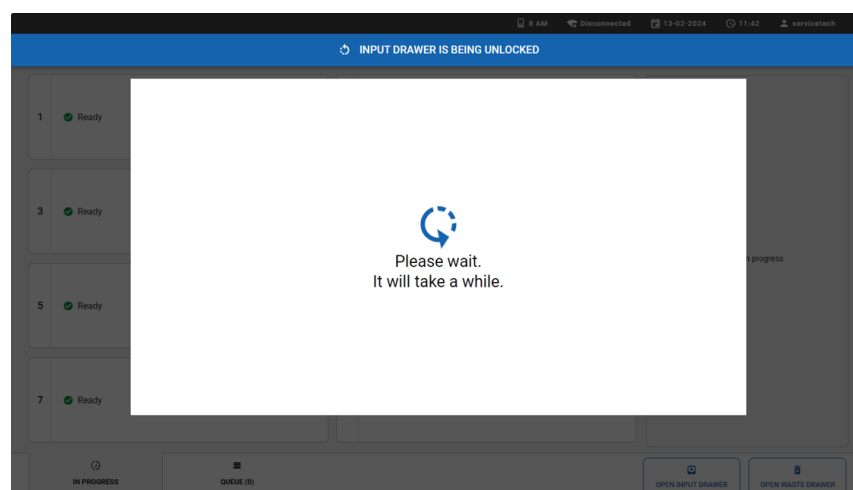

Figure 12. Input drawer waiting dialog.
4. Wait until the input drawer is unlocked (Figure 12).